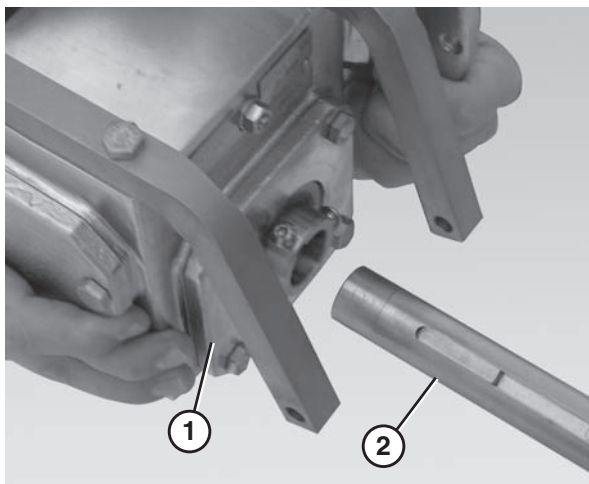

Figure 65
11. Slide the gear reducer (**Figure 65, item 1**) off the drive shaft (**Figure 65, item 2**).